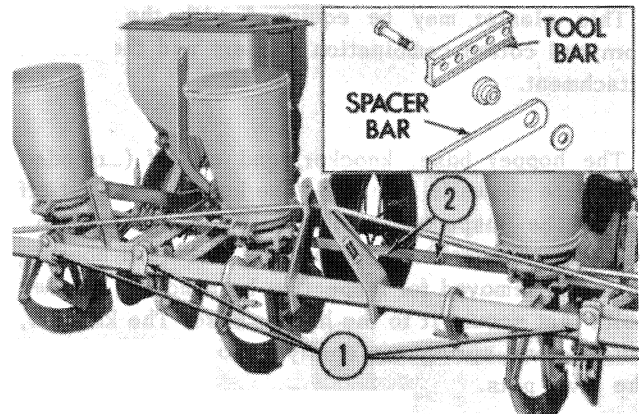

Figure 3
planter, it is necessary to loosen the clamps (1), Figure 3, on each side of the tool bar. On the six-row planter, loosen the clamps (7), Figure 31, on each side of the tool bar. Then, remove the two spacer bar bolts shown at (2), Figure 3. The units can then be positioned closer together or further apart by sliding them along the tool bar. **Planter units must always be positioned an equal distance from each side of the center of the tool bar.** When the desired spacing is obtained, the two bolts must be replaced in the spacer bar and the clamps tightened on the tool bar.